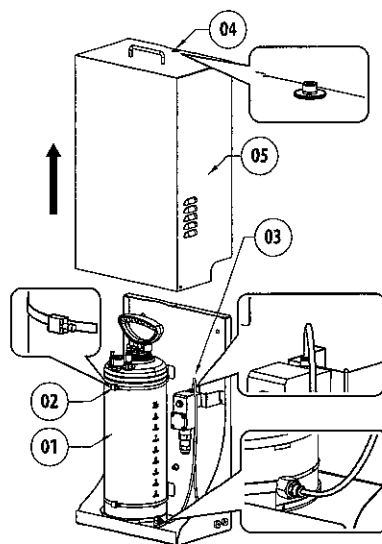

Fig. 4
It is possible to install or service the pump without removing the tank (Fig. 4, page 10). To remove the tank (01), release the metal clamps (02) and disconnect the connecting pipe (03).